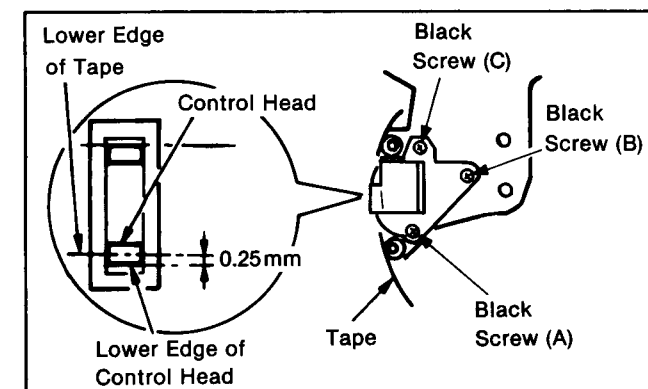

Fig. M20
- (1) Play back a cassette tape and confirm that the tape runs properly between lower and upper limits of T3 Post. Also confirm that the tape is running smoothly.
- (2) If adjustment is required, turn Black Screw (B), in Fig. M20, counterclockwise until curling is apparent at lower edge of T3 Post. Then turn Black screw (B) clockwise until the curling smooths.
- (1) Connect the oscilloscope to TP4001 on the Main C.B.A.
- (2) Play back the Monoscope portion (6KHz, Mono) of the Alignment Tape.
- (3) Adjust Black screw (C) on the A/C Head Base in Fig. M20 so that the output level is at a maximum.
- (4) Readjust Black screw (A) shown in Fig. M20 for maximum output.
- (5) Disconnect the oscilloscope.
- If adjustment is required, turn Black Screw (B), in Fig. M20, counterclockwise until the tape is at the lower edge of T3 Post. Then turn Black screw (B) clockwise until the tape is running smoothly.
- Adjust Black screw (C) on the A/C Head Base in Fig. M20 so that the output level is at a maximum.
- Readjust Black screw (A) shown in Fig. M20 for maximum output.